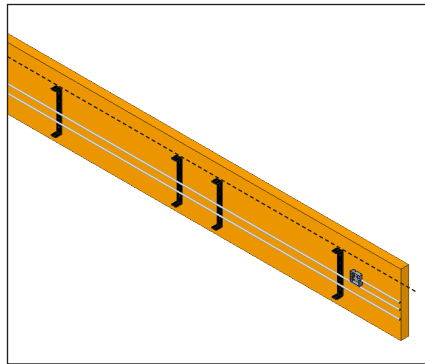

Figure 1: C-Clip Alignment
1. Level the C-clips according to the contract-specific Shop Drawing and their relation to the other clips. Refer to **Figure 1**.